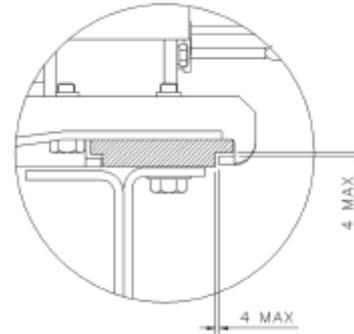

Figure 8 - Wear limits for outer guides
7. Check that the outer guides are within the carriage wear limits (shown in Figure 8).